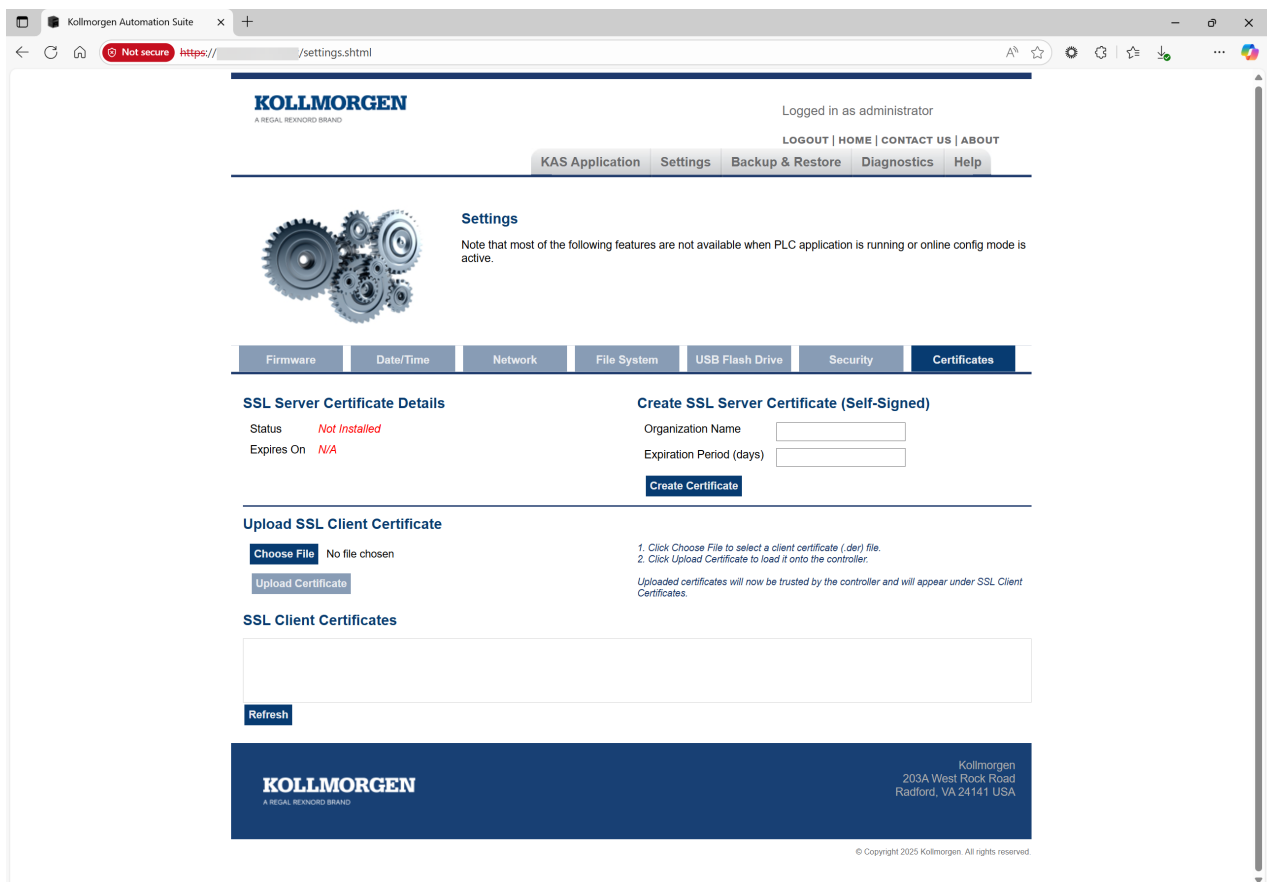

Figure 3-1: Certificates tab
7. Click the **Certificates** tab. (Figure 3-1)